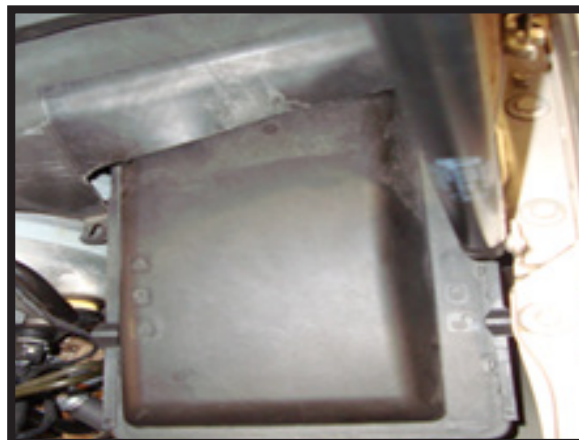

FIGURE 44
6. RE-INSTALL FUSE BOX COVER. (FIGURE 44)